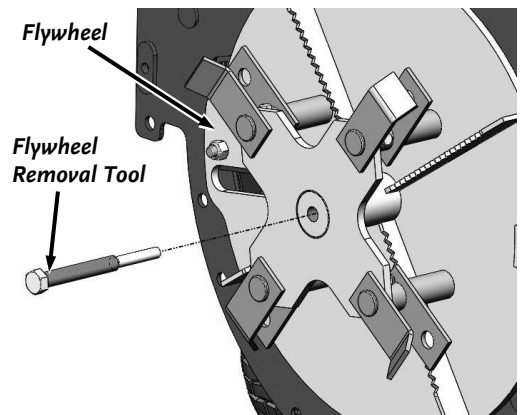

Figure 27
6. Repeat steps 2 through 4 for the other three sets of Hammers. Confirm that two of the J Hammers are facing out and the opposite two are facing in (**Figure 27**). Correct them if needed.
A flywheel removal tool (part number 365221) is available through DR Power Equipment to allow easy removal of the flywheel (**Figure 27**). Please visit us at www.DRpower.com to order the tool.